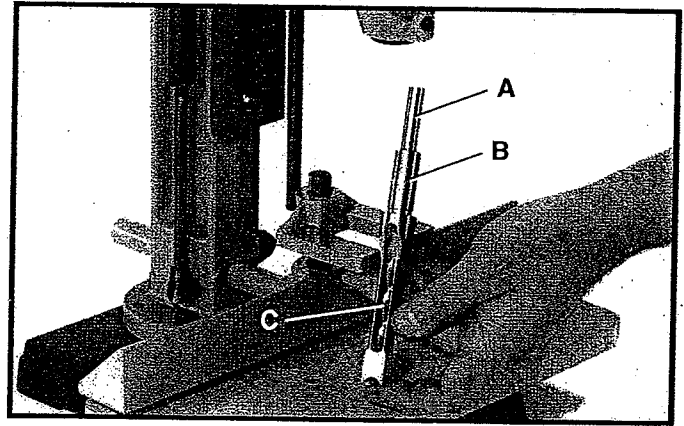

Fig. 20
2. Insert bit (A) Fig. 20, into chisel (B). **NOTE:** The opening (C) on the side of the chisel should always be to the right or left, never to the front or rear. The opening allows chips to escape during operation.